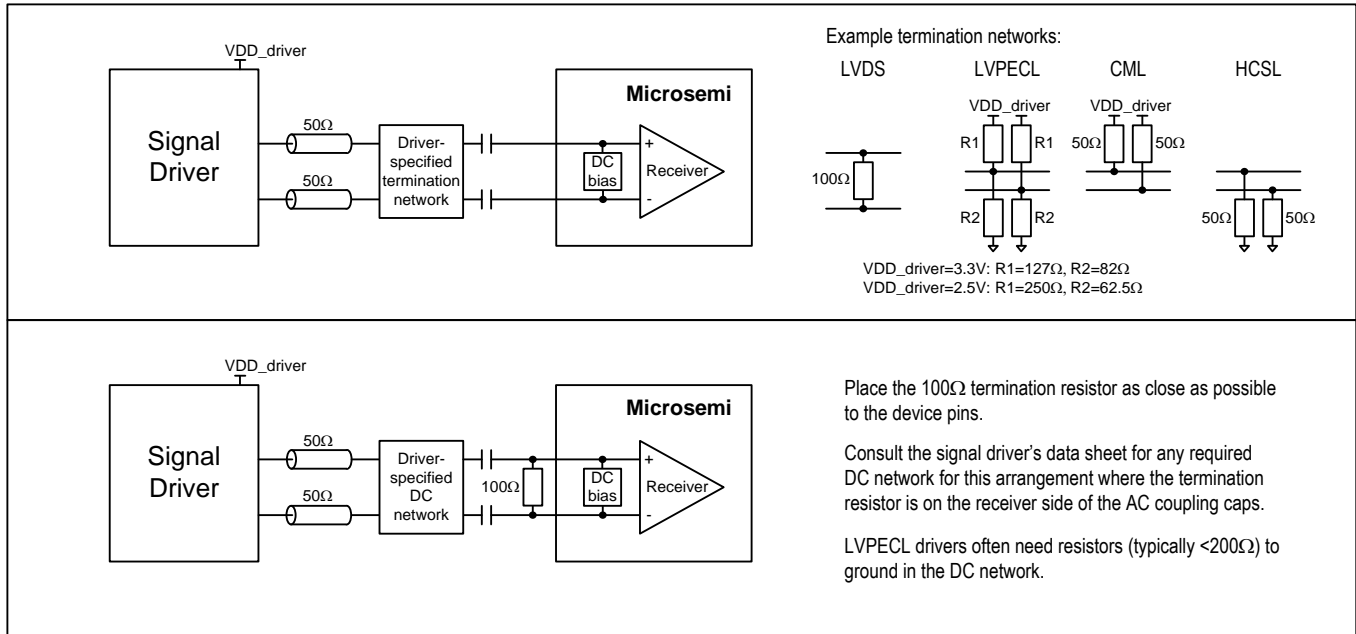

Figure 22 - Example External Components for Differential Input Signals
- Note 3: Differential signals.** The differential inputs can easily be interfaced to neighboring ICs driving LVDS, LVPECL, CML, HCSL, HSTL or other differential signal formats using a few external passive components. In general, Microsemi recommends terminating the signal with the termination/load recommended in the neighboring component's data sheet and then AC-coupling the signal into the ICxP/ICxN pins. See Figure 22 for details. To connect a differential signal to IC3, AC-couple one side of the signal to IC3P and AC-couple the other side to VSS. For DC-coupling, treat the input as 1.8V CML.